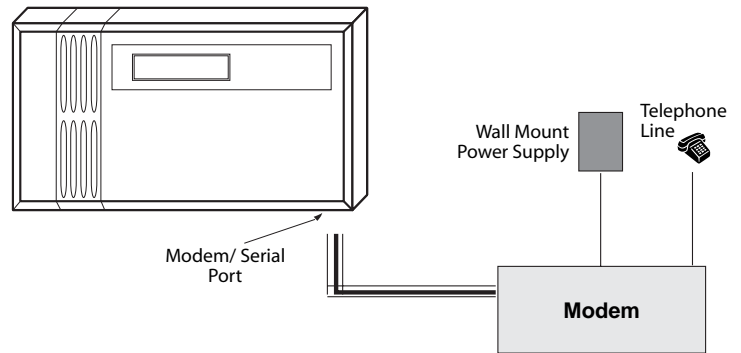

Figure 1.15 Connecting a Modem
1. **Connect the modem and Octopus unit** - Plug in the modem cable by inserting the 25-pin connector into the modem. The mini-DIN end of the cable is inserted into the Octopus at the serial port. The connectors are keyed and can only be installed one way. Make sure that the plugs on the cable are fully inserted into the jacks on the Octopus controller and the modem. See figure 1.15.
2. Power for the Modem - Aquadyne modems are powered by a small wall-mount transformer, as shown in Figure 1.15. Plug the end of the power cord into the back of the modem. Then plug the modem wall transformer into a wall receptacle or, preferably, into a surge suppressor powerstrip. The Octopus and the modem must be powered in order to send pages. If you want to receive pages in the event of power failure, both the Octopus and the modem should be plugged in to back up power supplies.